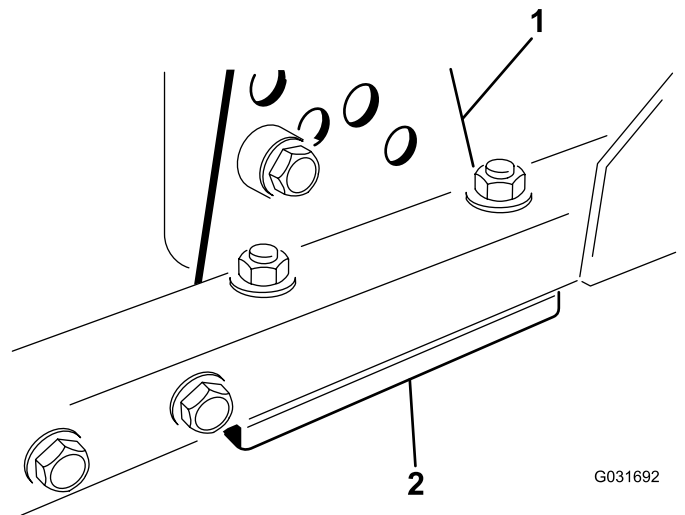

Figure 15
1. Remove the height-of-cut bracket (front, left, or right) from the deck frame (Figure 15).
2. Adjust 1.5 mm (0.060 inch) shims and/or 0.7 mm (0.030 inch) shim between the deck frame and bracket to achieve the desired height setting (Figure 15).